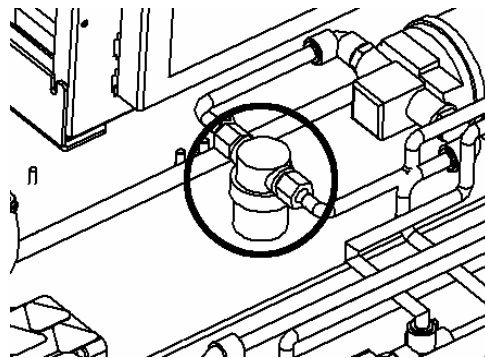

Figure 4-3
2. Locate the filter, shown in Figure 4-3. You should remove the waste tank guard assembly to access the filter easily. It is located under the waste tank bracket.